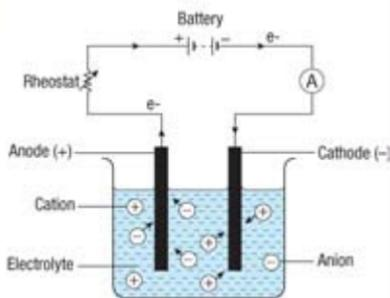

Figure 6.2 Electrolytic cell
- an **electrolyte** which contains positive ions (cations) and negative ions (anions) (Figure 6.2)